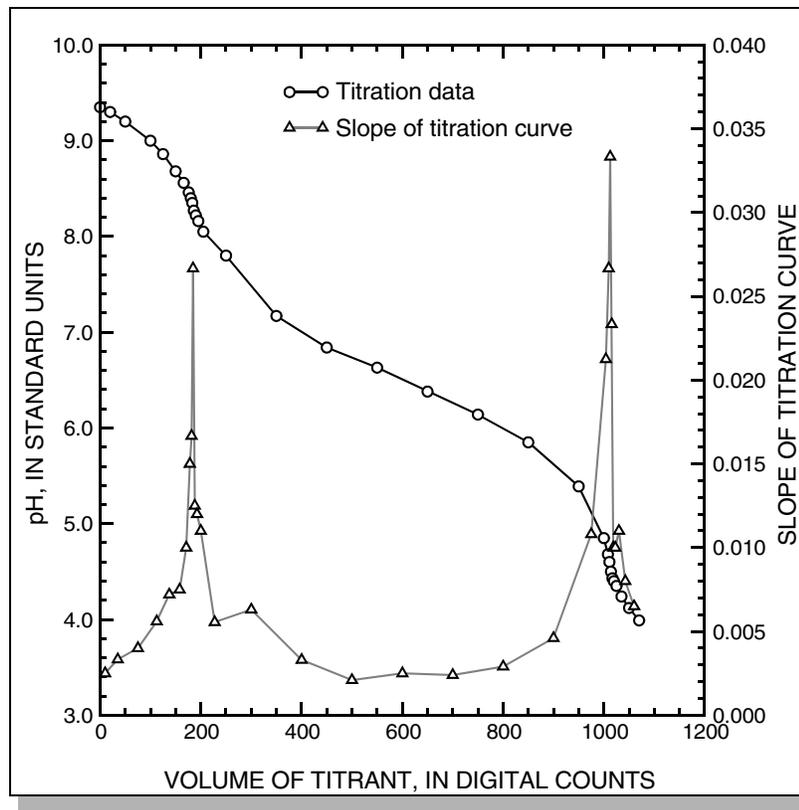

Figure 6.6–2. Plot of data for an inflection point titration using a digital titrator (Example IPT-1A).
A titration was performed on a natural water sample from the South Diamond Canal inflow to the Donner und Blitzen River, Oregon. The data are plotted in figure 6.6–2 and listed in table 6.6–3. Using the IPT method, the maximum rates of change of pH per volume of titrant added occur at pH 8.27 and 4.50 (at counts 186 and 1014). Because these slopes represent changes between two points, the actual inflection points are located between counts 183 and 186 for the carbonate equivalence point and between 1011 and 1014 for the bicarbonate equivalence point. Thus, the calculated digital-counter values for the inflection points are 184.5 (185) and 1012.5 (1013). The error in using 1014 rather than 1013 typically is insignificant but the larger the increments used, the greater the error. Calculation of the correct inflection point results in reduced errors.